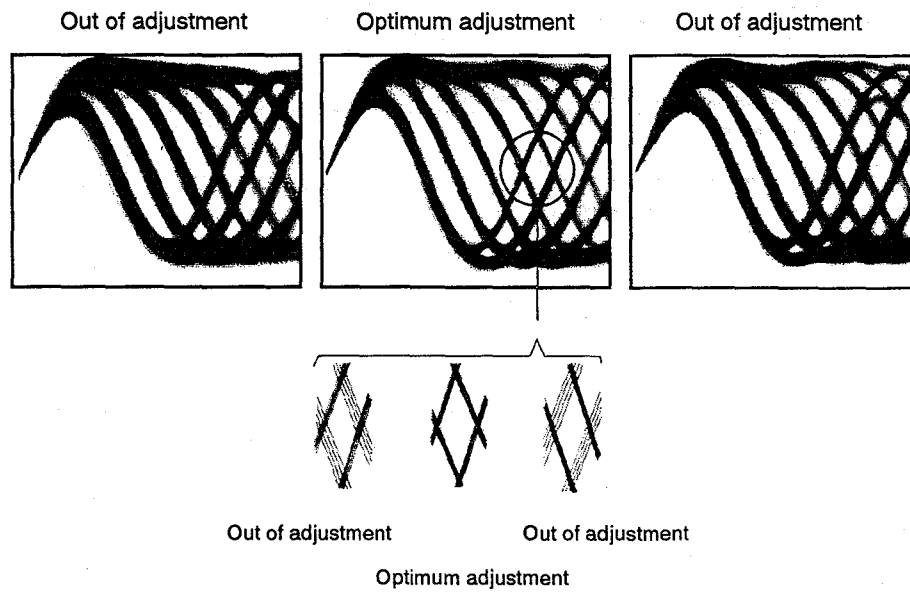

Figure 5 Eye Pattern
3. Next, adjust the tangential tilt adjustment screw with an M3 mm hexagonal wrench so that the eye pattern (the diamond shape at the center of the RF signal) can be seen the most clearly (Figure 5).